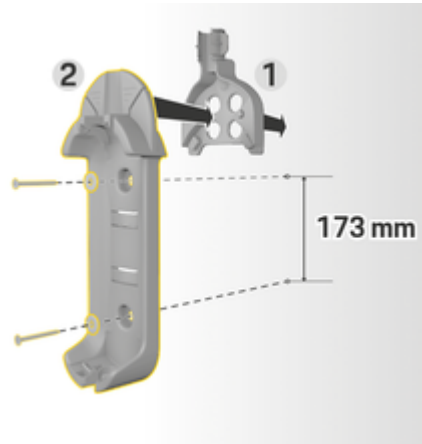

Fig. 26: Drilling dimensions
3. Press the basic wall mount 2 (Fig. 26) into the cable guide 1 (Fig. 26) from the front.